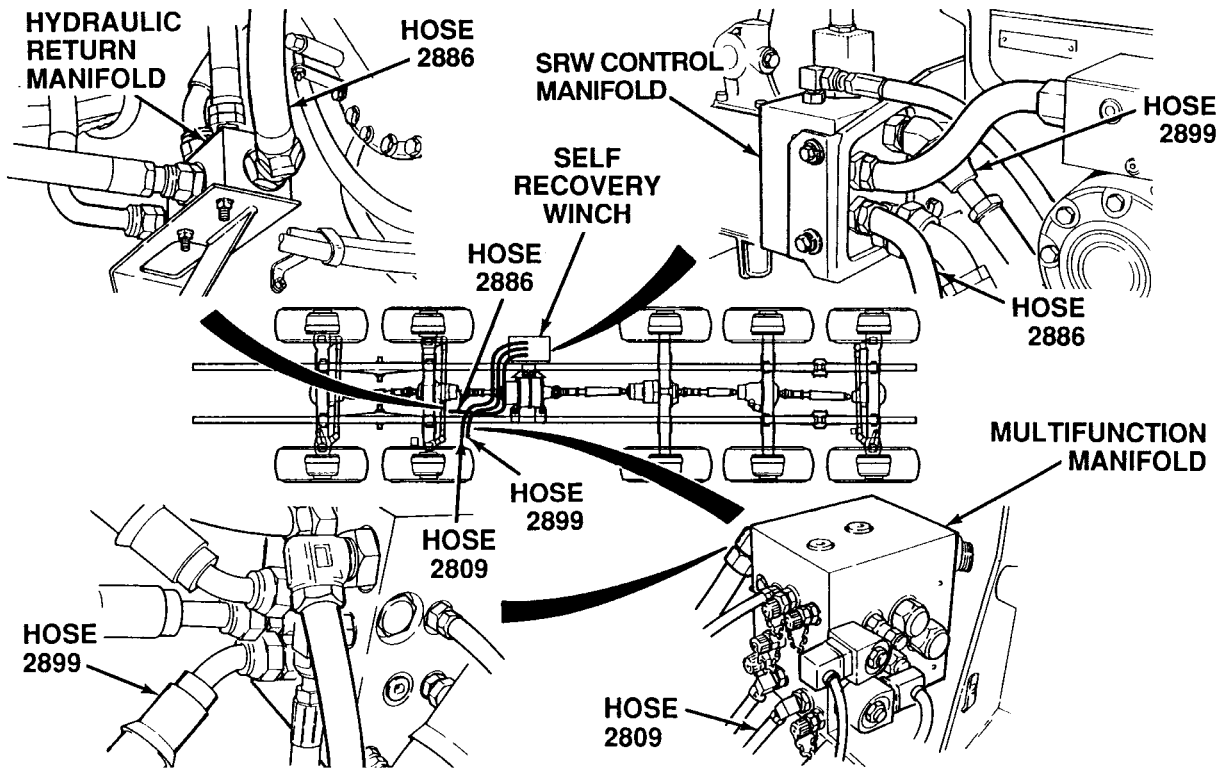

Figure 2-66. Winch Hydraulic Diagram
- Inspect hoses 2809, 2899 and 2886 for leaks and damage (Fig 2-66).
- (1) If hose is leaking or damaged, tighten loose fittings or replace hose (Para 20-3).
- (2) If hoses are OK, go to Step 2 of this Fault.